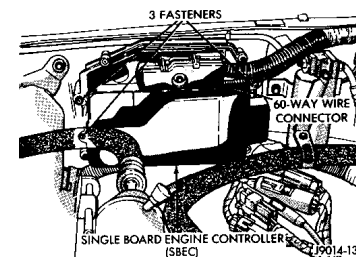

Fig 2
2. Remove the 60 way connector for the wiring harness using an 8mm socket (Fig. 2)
3. Using the same socket, remove the (3) module mounting screws (Fig. 2)